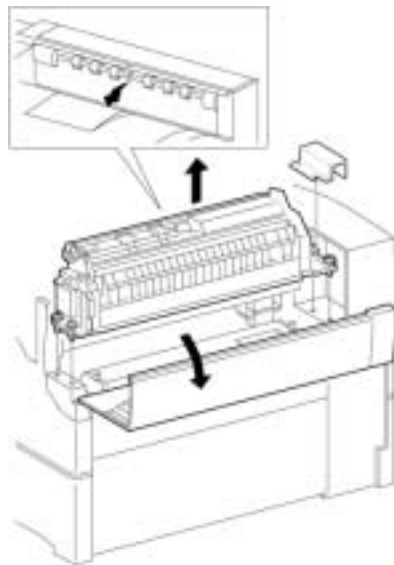

Fig. 6.1 Fuser Assembly
2. Open the fuser cover assembly (fig. 6.1).